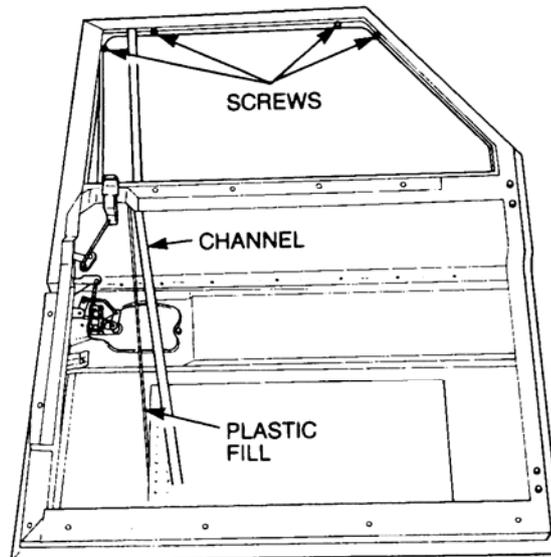

Figure 18 Window Channel Removal
- z. Remove the recessed screws securing the window channels (refer Figure 18).